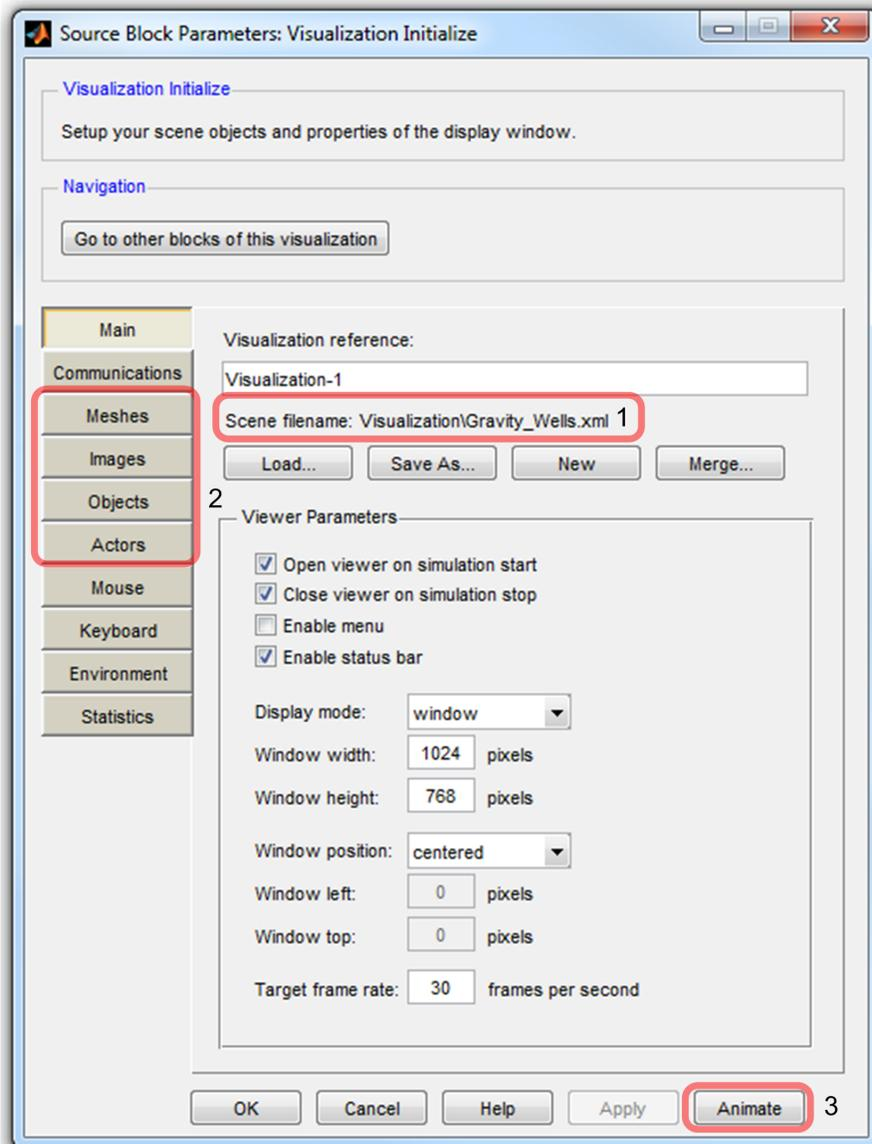

Figure 10.1: Parameters window of Visualization Initialize block
2. Double-click on this block to open the **Parameters** window as shown in Figure 10.1. See below for a description of each of the labeled sections.